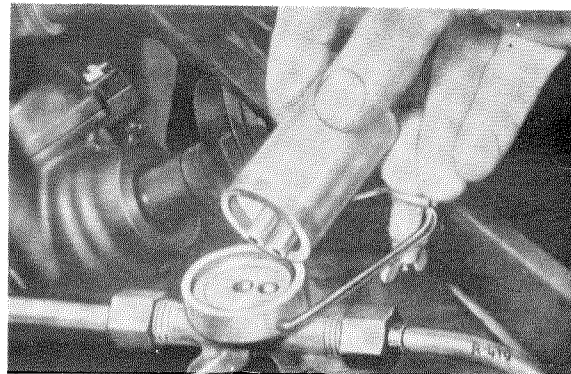

Fig. 47—6/2
4. Slacken the wing nut, turn down the wire clamp at the side and take off the filter cup (Fig. 47—6/2).
8. Put a new seal (41) or (46) in the filter housing (see Fig. 47—6/1).
9. According to the version of the pass filter fitted, screw the filter insert (42) into the lower part of the filter (40) or alternatively, push the filter insert (47) into the filter cup (49) and insert the circlip (48).